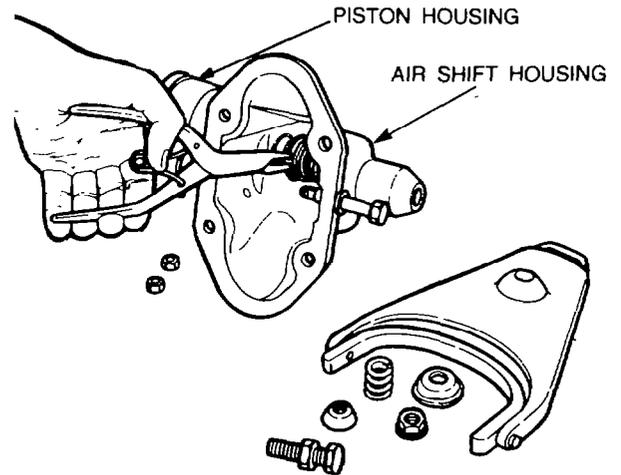

Figure 202 — Piston Housing Removal
- e. Remove the nuts and washers securing the piston housing to the air shift housing, then remove the snap-ring locating the return spring on the piston shaft. Remove the piston housing, spring and spring seat from the air shift housing (see Fig. 202).